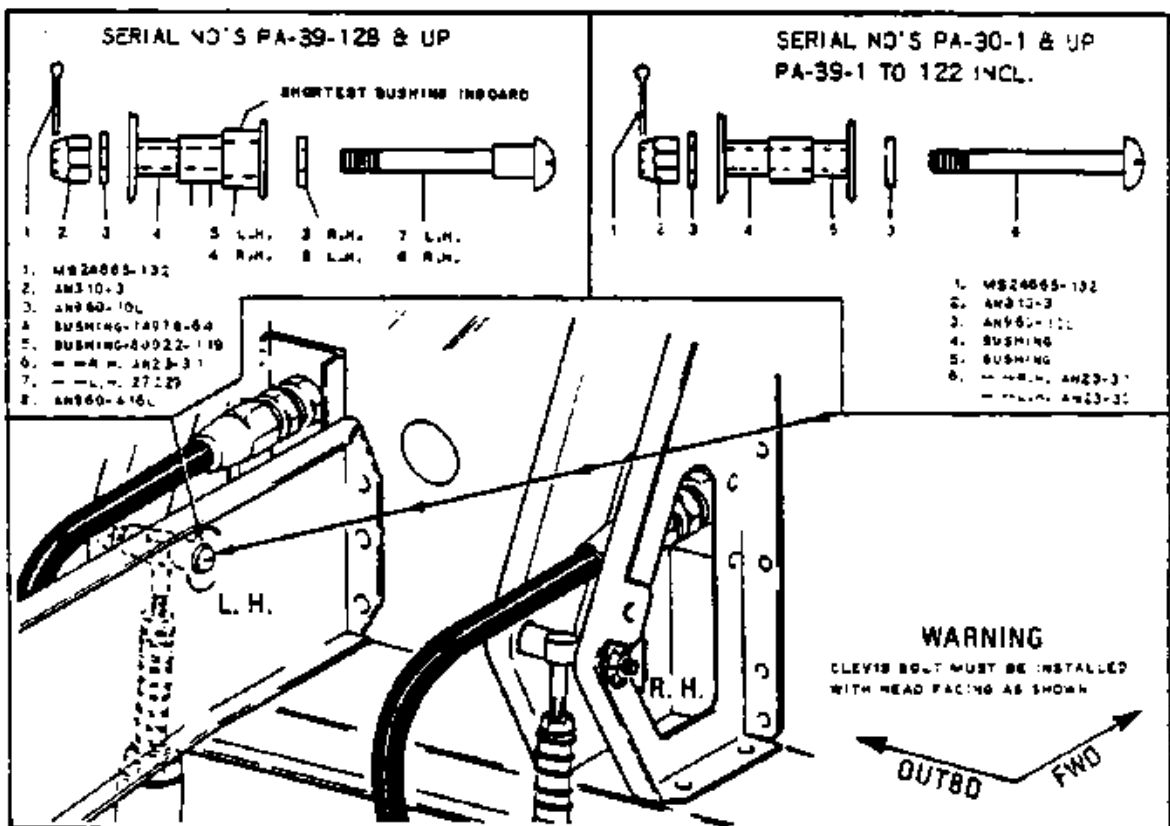

**Figure 7-26a. Brake Cylinder Installation**
- b. Install spring (18) and fluid line fitting (19).
- c. Slide the actuating arm (25) into the cylinder housing and install "O" ring (20), bushing (21), spring (22), washer (23) and secure with nut (24).
- d. Install "O" ring on inside (5) and outside (6) of gland packing nut (7).
- e. Slide spring, gland packing nut (7), washer (9), piston (10) with "O" ring (11), spring (12) and bushing (13) on piston rod (8) and secure with snap ring (14).
**7-71. INSTALLATION OF BRAKE CYLINDER.** (Refer to Figure 7-26a.)
- a. Position the cylinder in its mounting bracket and insert the upper mounting bolts from the inboard side of each cylinder along with the appropriate hardware as shown in Figure 7-26a.
The correct upper mounting bolt must be installed as shown in Figure 7-26a for the particular serial numbered aircraft being serviced.